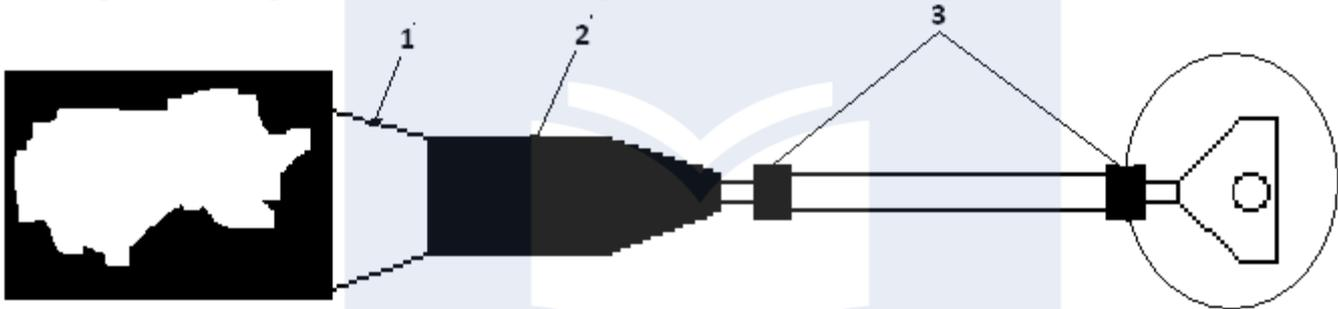

FIGURE 10
9.1 Identify the type of drive line represented in the **figure 10** above. (1mark)
- 9.2 copy and complete the table ABOVE while referring to **figure 10** above. (4marks)